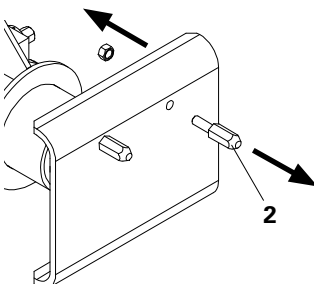

Fig. 24a
3. Release the hex. nuts of the Centering Bolts M12 (2) by turning counterclockwise, and then remove Centering Bolts M12 from the holes. (Fig. 24a)